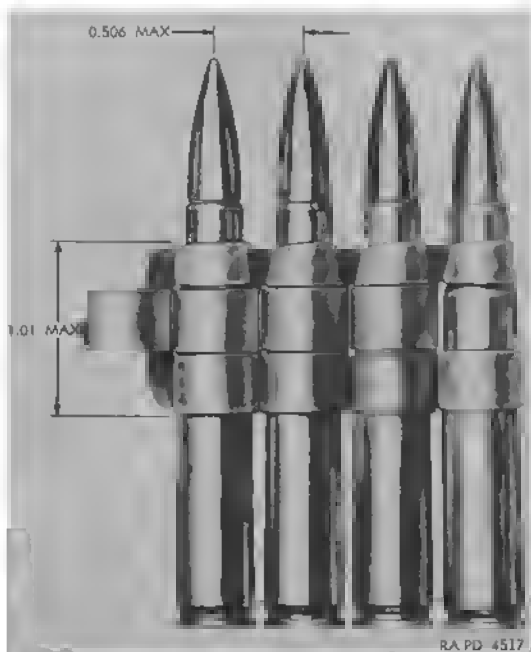

Figure 61. Section of cal. .30 linked belt.
- (1) Since ammunition in metallic link belts (figs. 61 and 62) may consist of more than one type of cartridge and hence would require two or more lot numbers marked on each packing box and in records, a single repacked lot number is assigned by the repacker to replace the original ammunition lot numbers. This repacked lot number is marked on one end, and on the top of each packing box. The ammunition lot numbers of the cartridges comprising a repacked lot are listed on the reference card placed inside the packing box.
- (2) The repacked lot number consists of the words "REPACKED LOT", the initials of the repacker, the letter "L" for linked cartridges, and the lot number assigned by the repacker.